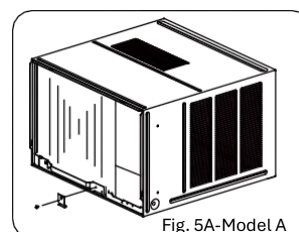

Fig. 5A-Model A
1. Remove one screw securing the chassis mounting bracket, then disassemble the chassis mounting bracket as shown in Figure 5A.